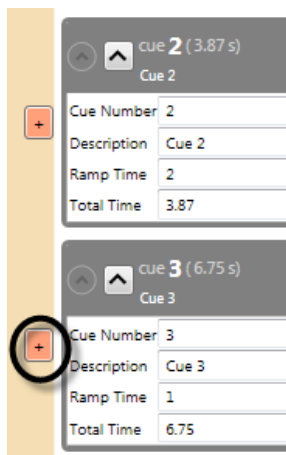

Figure 153
1. Click the **Add Link** button next to the **Child Cue** (Figure 153).